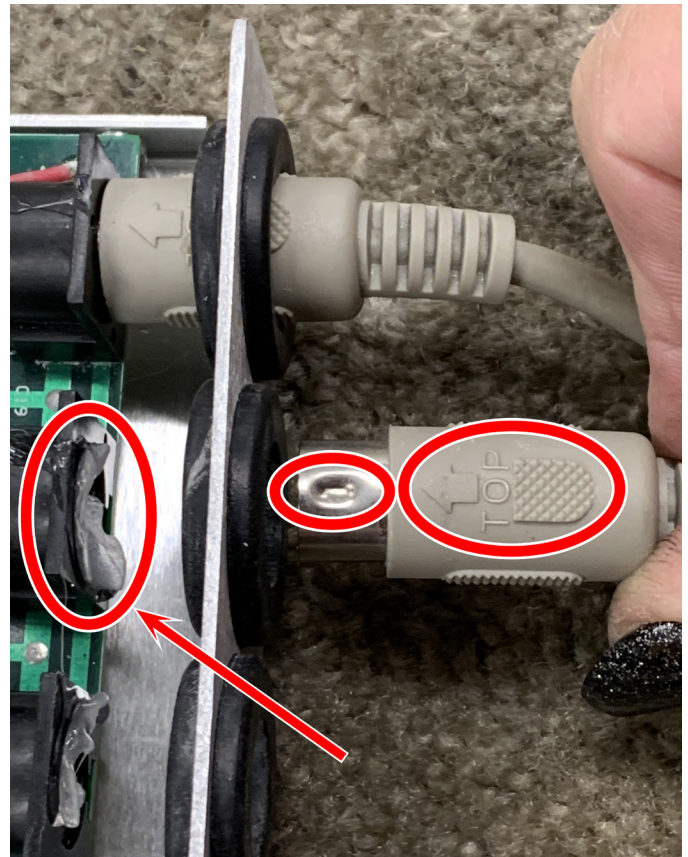

FIGURE 29—The red arrow points to the excess silicone.
- B. The cable must be orientated to match the pin locations on the connector (it will only go in if it is in the correct orientation to the connector. The detent on the metal shoulder, and the word “Top” on the cable end must be facing up (see Figure 29).